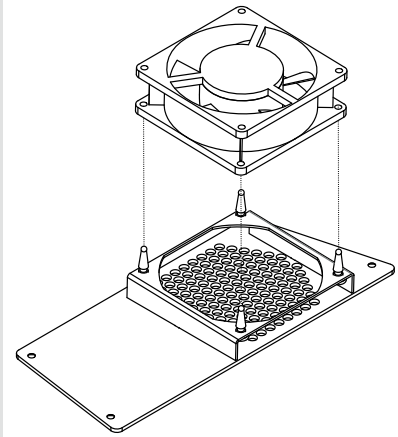
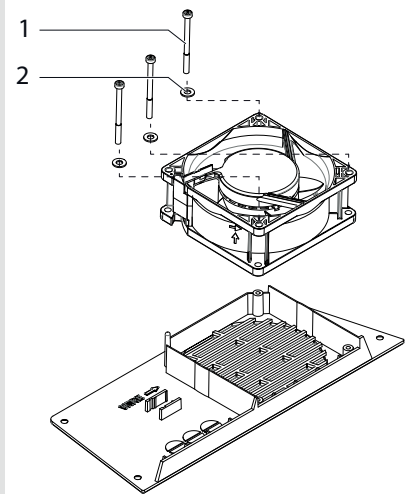

Figure 30: Replacing the fan
Figure 31: Replacing the fan
7. Remove the fan from the side housing cover by pulling it away from the cover or disassemble fan from the side housing cover by the tree assembly screws. (See position 1 & 2 in Figure 31)
1. Place the new fan in the holding fixture (Figure 30 or Figure 31 on page 46).
assemble fan with assembly screws. (See position 1 & 2 in Figure 31)